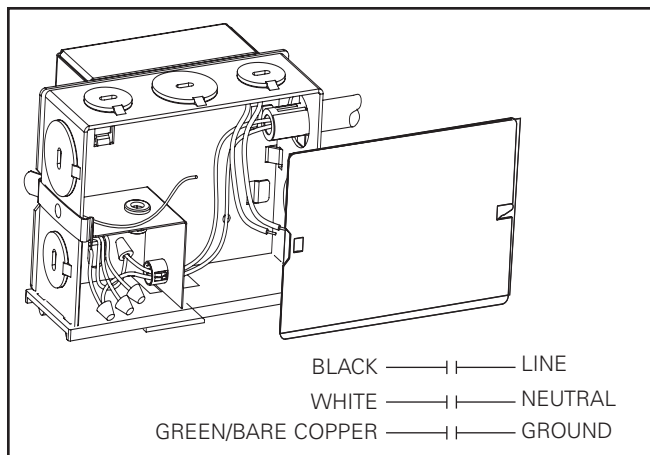

Figure 13.
2. Remove junction box cover (Figure 13).